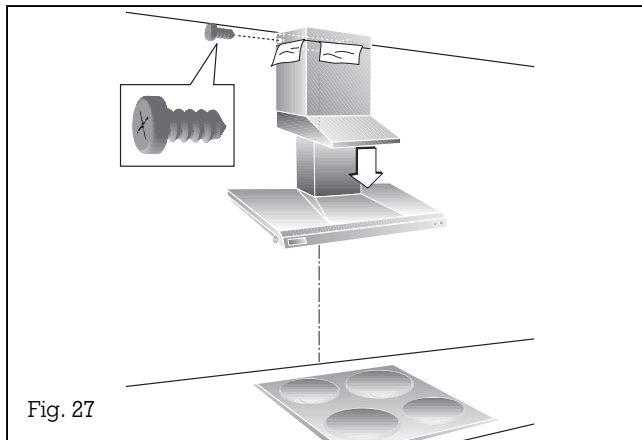

Fig. 27
- Pull the shoe down into its final position (Fig. 27)